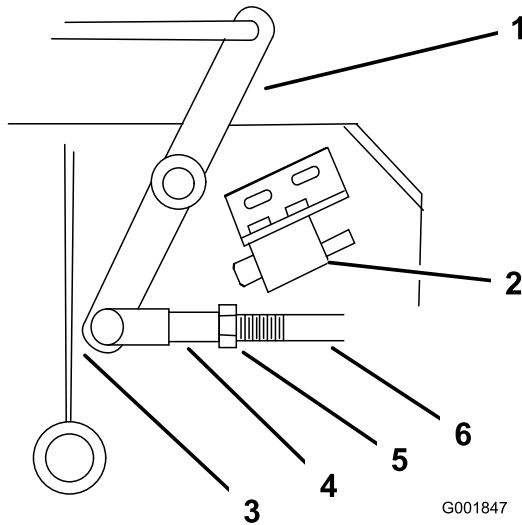

Figure 53
4. Adjust the linkage length to where the lower end of the bellcrank just clears the axle support gusset (Figure 53).
9. Loosen the nut against the yoke (Figure 53).